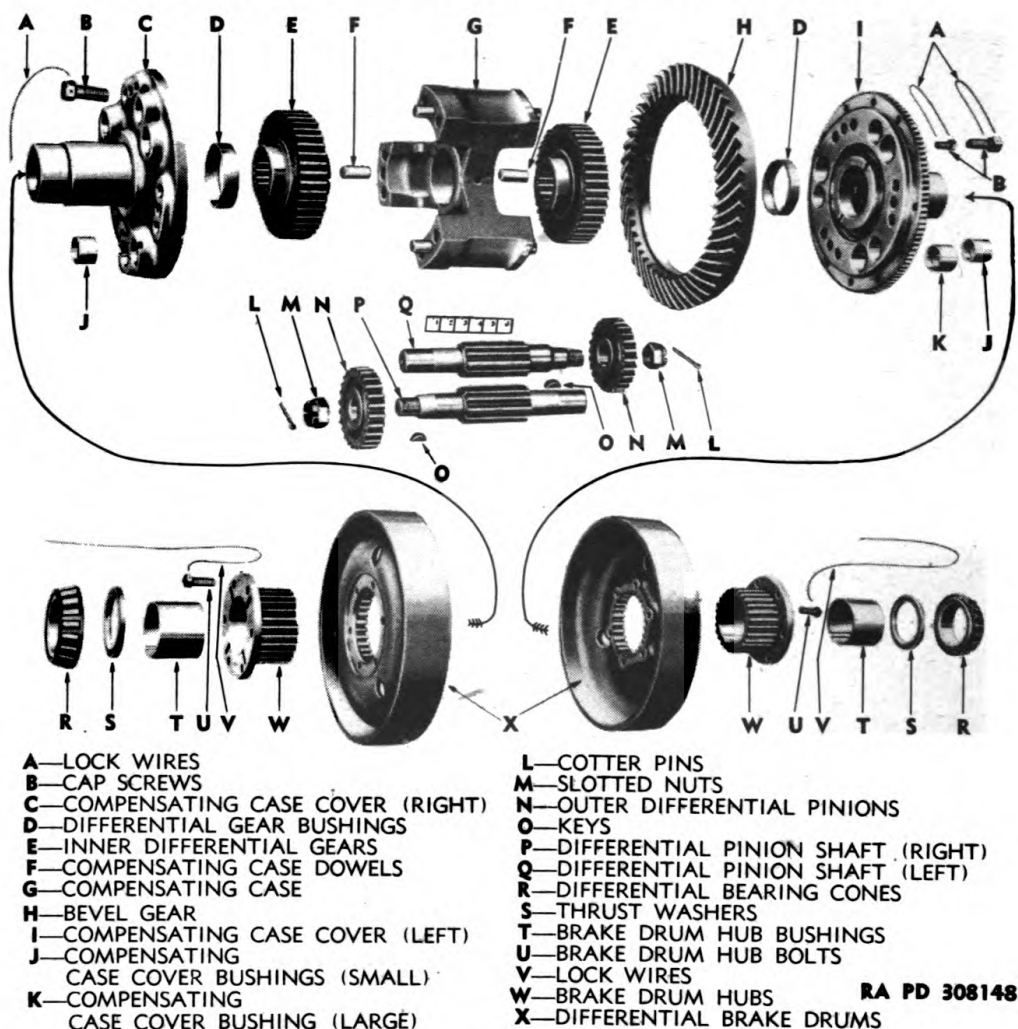

Figure 48 — Differential Assembly Disassembled
(1) **GENERAL.** Since this controlled differential assembly is similar to those used in the light tank, the inspection procedure set up for these other vehicles can be followed for this differential assembly. Refer to subparagraph a (1) and (2), above, for inspection of gears and bearings.
(2) **DIFFERENTIAL PINIONS AND BUSHINGS** (fig. 48). Inspect these pinions carefully to detect signs of wear or damage. When new, the pinion shafts have a clearance of from 0.008 to 0.009 inch in the bushings. Replace the pinions if the teeth are scuffed due to worn bushings or if teeth are damaged in any way. These must be replaced in pairs. Make sure the threads on ends of shafts and the nuts that go on these shafts are in good condition.
(3) **BRAKE DRUMS AND BRAKE BANDS** (fig. 48). Brake drums